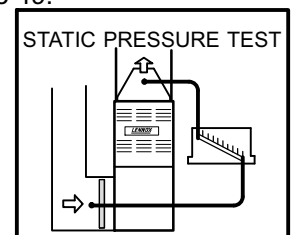

FIGURE 49
- 1 - Tap locations shown in figure 49.